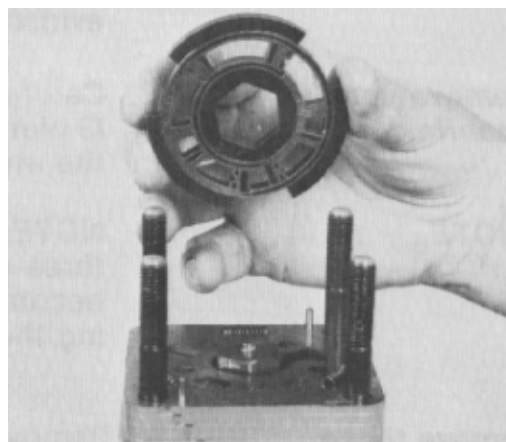

Figure 52
12. Remove the valve plate by lifting it from the isolation manifold (Fig. 52).